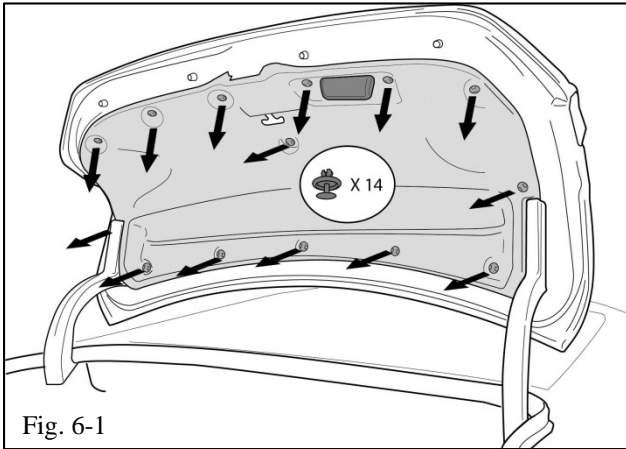

Fig. 6-1
- (a) Use a trim removal tool to remove the 14 plastic clips securing the interior trunk lid liner to the trunk lid (Fig. 6-1).